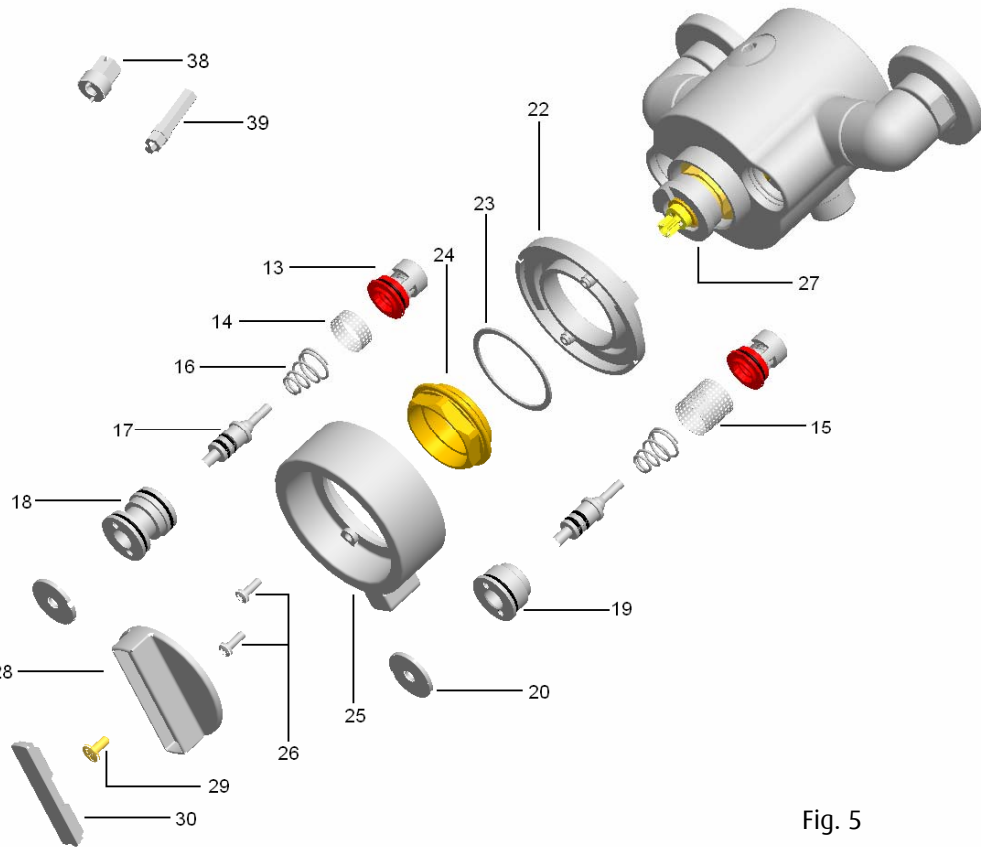

Fig. 5
8.8 Resetting the Maximum Temperature (See Fig. 5)
8.6 Cleaning the Filters (See Fig. 5)